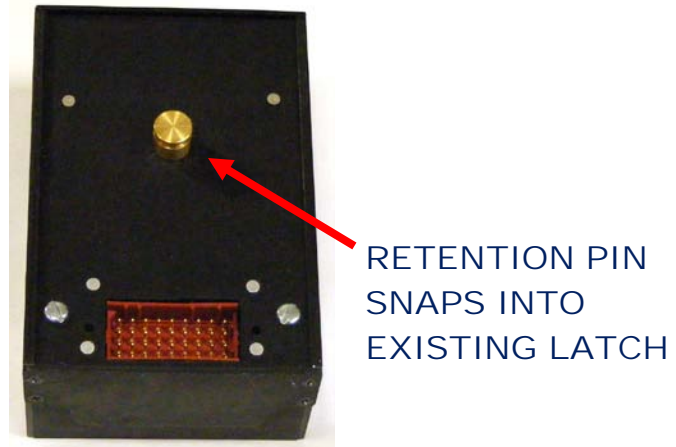

FIGURE 6, REAR VIEW SHOWING RETENTION PIN
4.10. Install the *etc-12 G Series* trip unit by pulling down the *RELEASE* lever on the box mount and inserting the brass retention pin into the mating slot on the existing boxmount. Pressing the retention pin against the flat spring will cause the *RELEASE* lever to move into the locked position. Refer to figures 6 and 7.